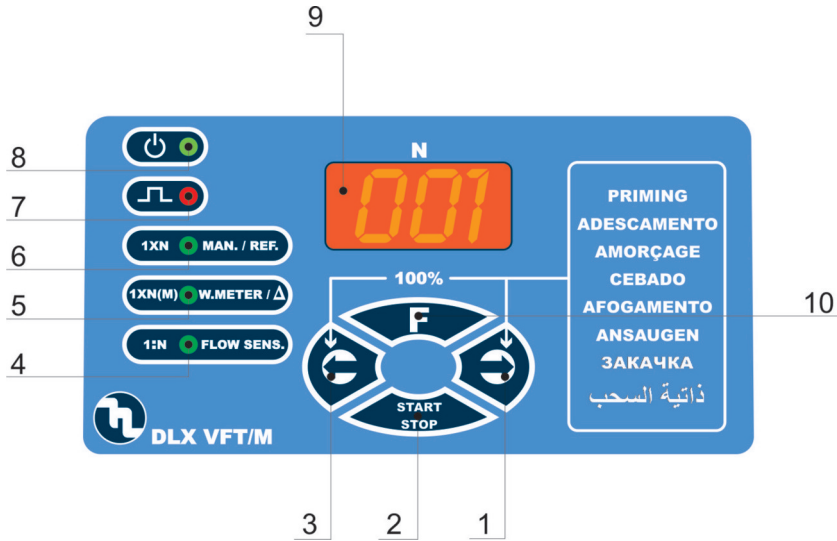
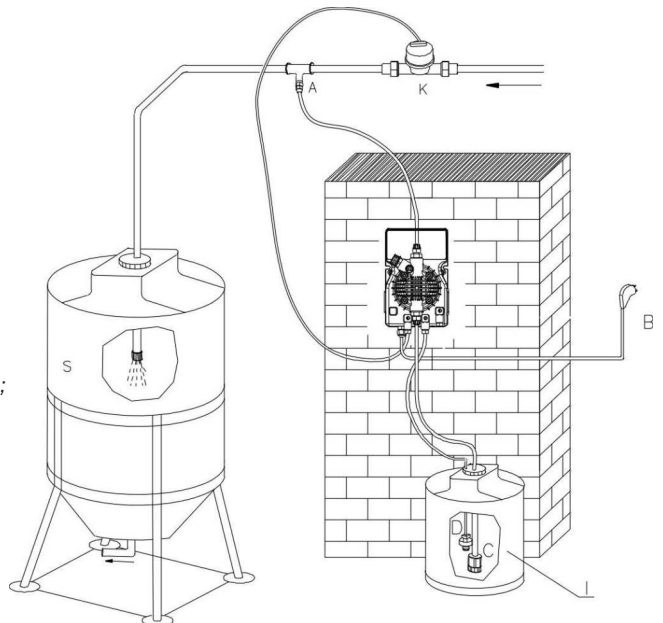

Fig. 13
Fig. 14
6.1 - PUMP CONTROLS (Fig. 13)
- 5 - "green" LED 1XN (M) function/water meter/max allowed pulse difference
6.2 - TYPICAL INSTALLATION (Fig. 14)